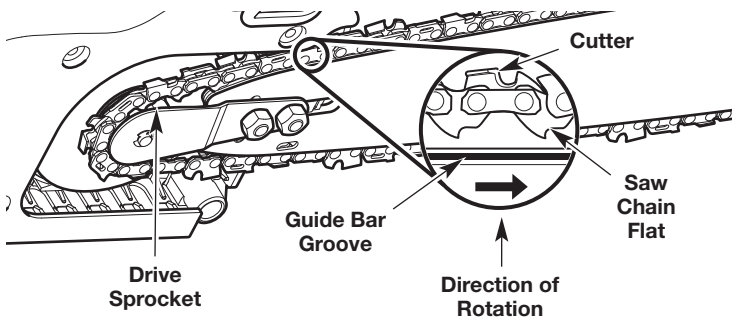

Fig. 38
6. Loop the saw chain around the drive sprocket (Fig. 38). Make sure the flats on the saw chain are in the grooves on the drive sprocket. Make sure the cutters point in the correct direction of rotation (Fig. 38).
7. Fit the saw chain into the guide bar groove (Fig. 38).